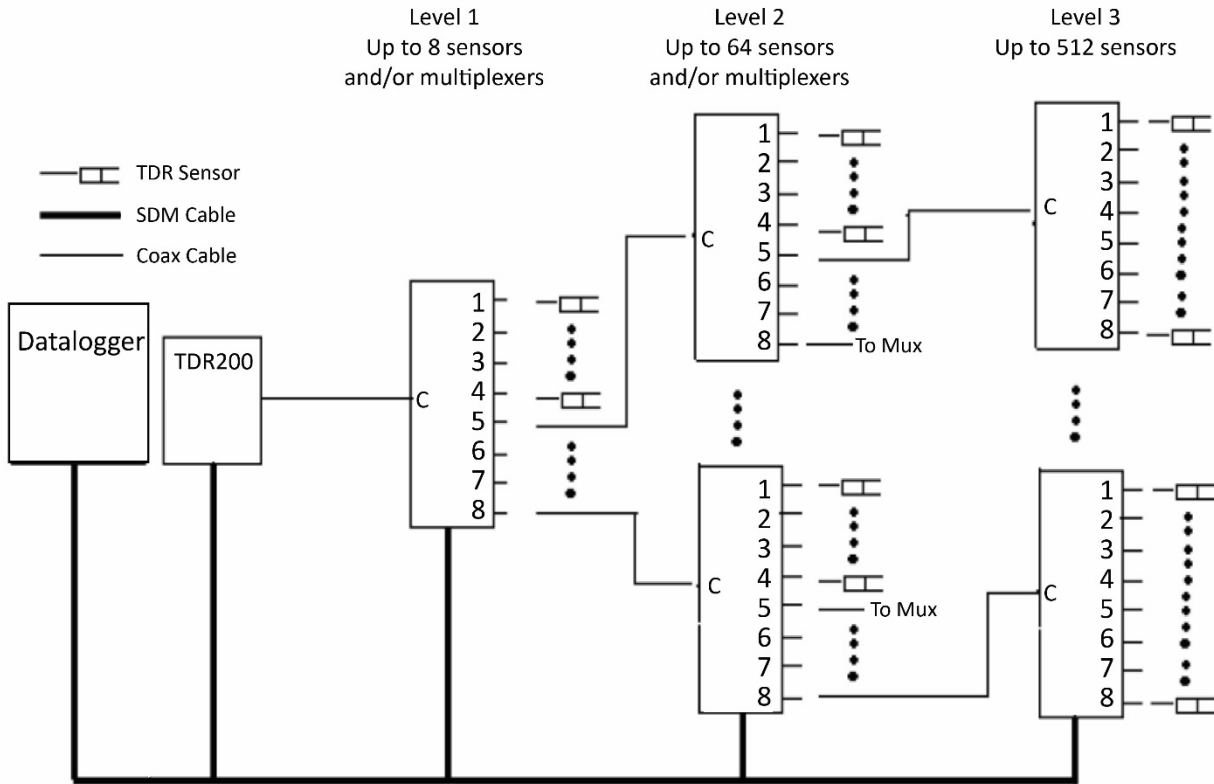

FIGURE 7-1. TDR System Components
- Current drain during switching:** ~90 mA (all multiplexers of the same level switch simultaneously for less than 1 s. See FIGURE 7-1, *TDR System Components (p. 10).*)
FIGURE 7-1 shows the three multiplexer levels allowing up to 512 probes to be measured. The first level includes the TDR200 and one multiplexer. Up to eight coaxial cables connect to each multiplexer. The coaxial cables can be connected to TDR probes or the next level multiplexers.
Each of the eight ports can be connected to a probe or another multiplexer (see FIGURE 7-1, *TDR System Components (p. 10)*).
The address selected on the TDR200 must match the SDM address used in the data logger program. The three multiplexer levels (FIGURE 7-1, *TDR System Components (p. 10)*) use the following addressing scheme: